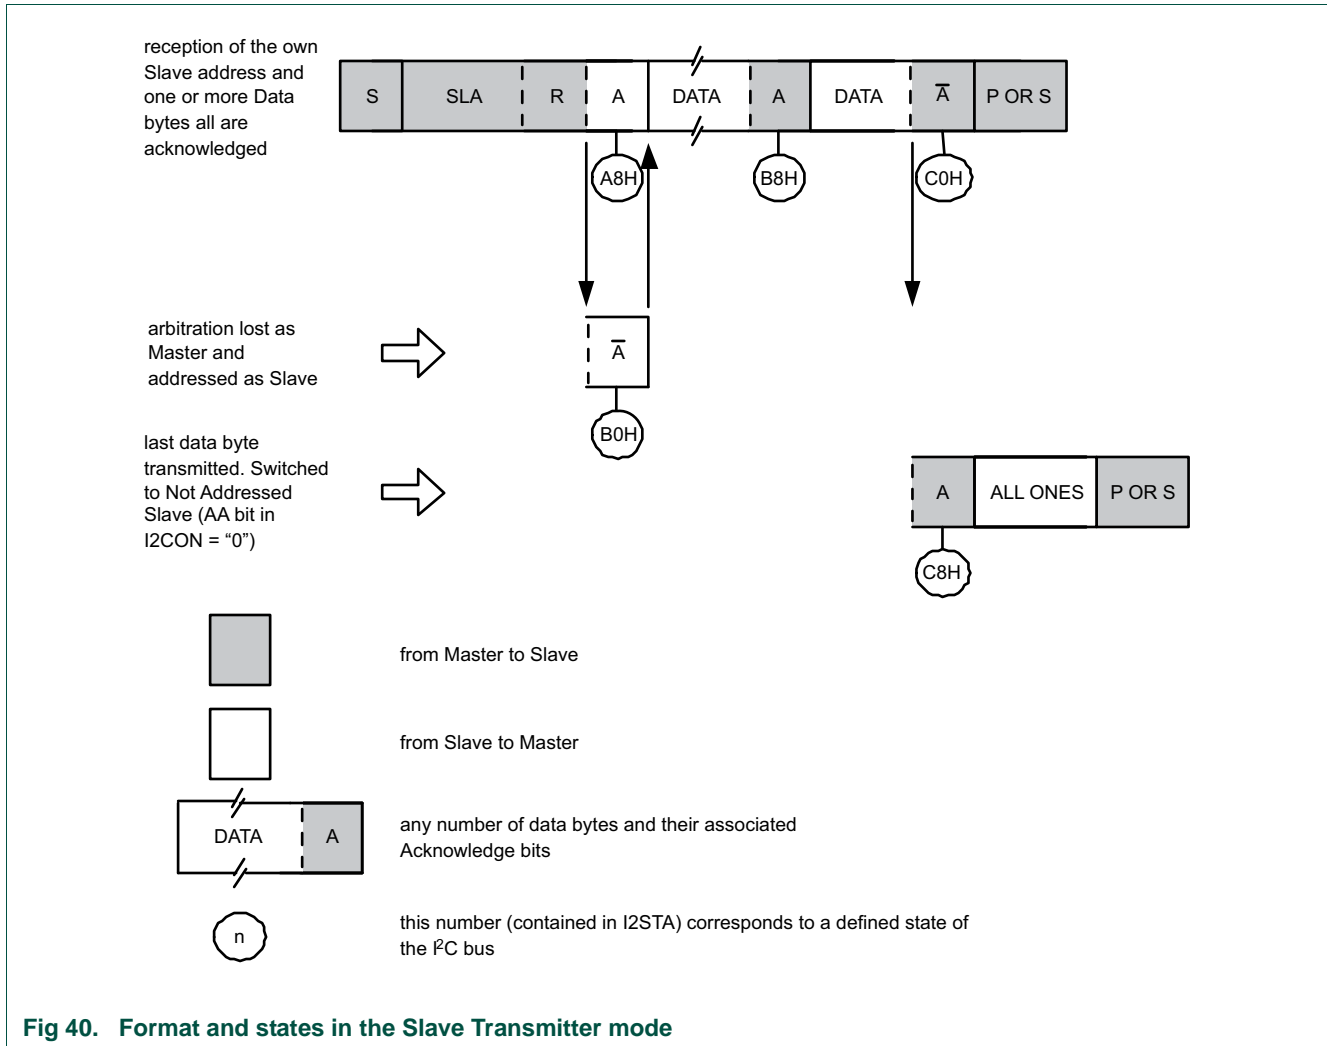

Fig 40. Format and states in the Slave Transmitter mode
In the slave transmitter mode, a number of data bytes are transmitted to a master receiver (see Figure 40). Data transfer is initialized as in the slave receiver mode. When ADR and CON have been initialized, the I2C block waits until it is addressed by its own slave address followed by the data direction bit which must be “1” (R) for the I2C block to operate in the slave transmitter mode. After its own slave address and the R bit have been received, the serial interrupt flag (SI) is set and a valid status code can be read from STAT. This status code is used to vector to a state service routine, and the appropriate action to be taken for each of these status codes is detailed in Table 215. The slave transmitter mode may also be entered if arbitration is lost while the I2C block is in the master mode (see state 0xB0).